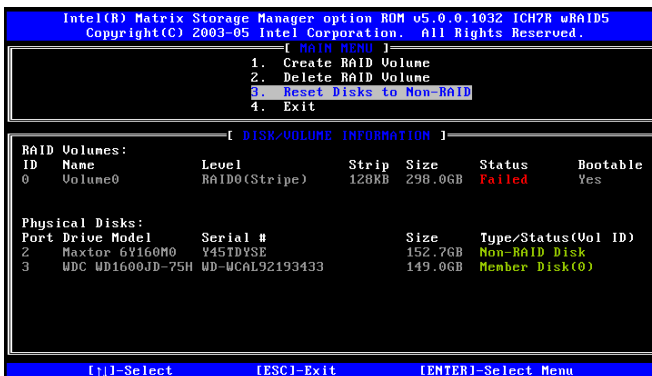

Figure E-15: Disk Drive and RAID Volume Status
- Step 4: Disk Drive and RAID Volume Status.** After the disk drives have been reset, the **Matrix Storage Manager Main** menu is shown indicating the status of the RAID volumes and disk drives. See Figure E-15. **Step 0:**